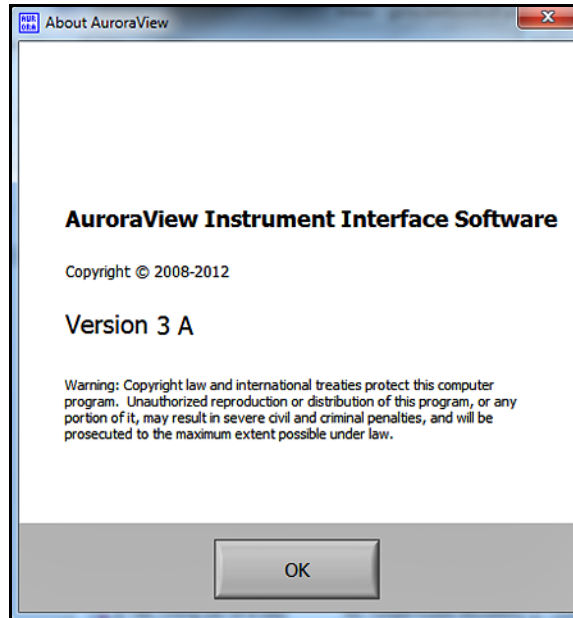

Figure 71: Software Information
6. Click Help (see *Figure 71* below).